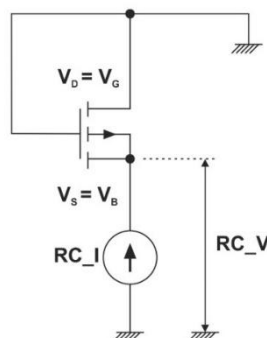

Figure 3: RADFET rider circuit configuration.
The main sensing elements of the VT-DRM(S) module are two RADFET parts, with oxide thickness of 100nm and 400nm. Each RADFET consists of two identical transistors, R1 and R2. The readout selection of the RADFETs is set by control signals CTRL_EN, CTRL_R1,2,3,4 generated by the ADC. In readout mode, the selected RADFET is biased in Reader Circuit configuration – Drain/Gate tied together and grounded, Source/Bulk tied together, while constant DC current source is connected to the Source/Bulk. The reader circuit voltage (RC_V) is equal to the threshold voltage of the RADFET (V_{TH}) read at Source/Bulk, see details in Figure 3.